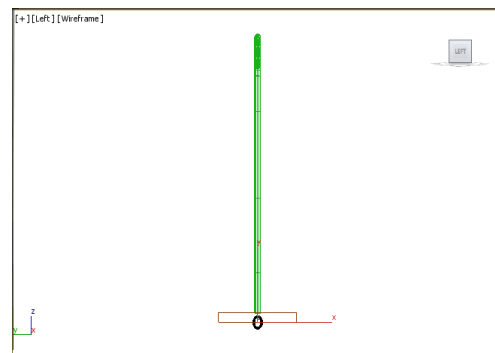

Figure 5-28 The joint displayed
4. In the **Rendering** rollout, make sure that the **Enable In Renderer** and **Enable In Viewport** check boxes are selected. Also, make sure that the **Radial** radio button is selected. Next, set the value **0.05** in the **Thickness** spinner; *joint* is displayed at the bottom of the viewport, as shown in Figure 5-28.